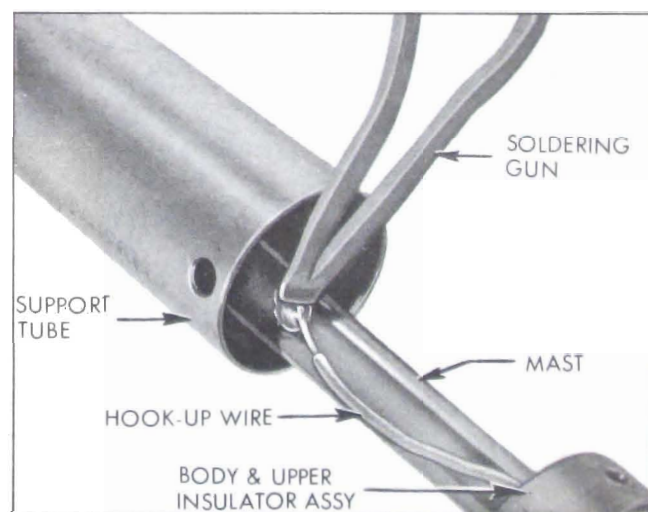

Figure 11-10—Soldering the Hook-up Wire to the Mast
5. Solder this free-end of the hook-up wire to the .400" tube section using rosin flux solder. See Figure 11-10.